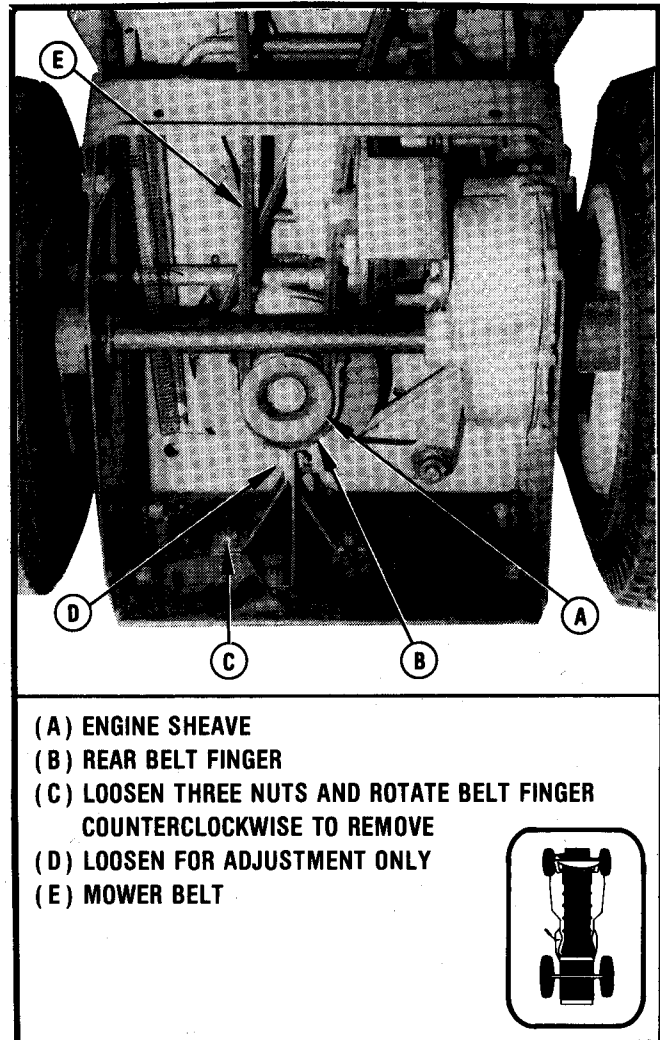

FIGURE 1-6
MOWER BELT REMOVAL AND REPLACEMENT — FIGURE 1-6
3. Loosen three nuts holding rear belt finger and rotate belt finger free. See Figure 1-6.
8. To replace the rear belt finger, tighten the top two nuts first, then the bottom nut. In the event belt finger needs adjustment, loosen the nut just below the engine sheave (Figure 1-6), then reposition and tighten nut. There should be about 1/16" between belt finger and belt. Adjust mower belt.
3. Remove engine sheave belt fingers. See Figure 1-6.
5. Release drive belt from idler. See Figure 1-6.